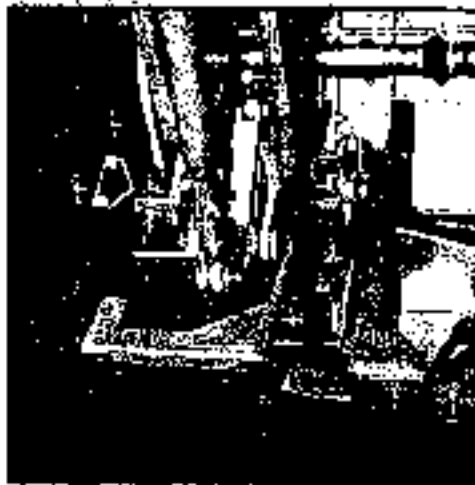

Fig. 4-68 Main gear fwd.
10.5 MAIN GEAR FORWARD DOOR OPEN LIMIT SWITCH (See Fig 4-68)